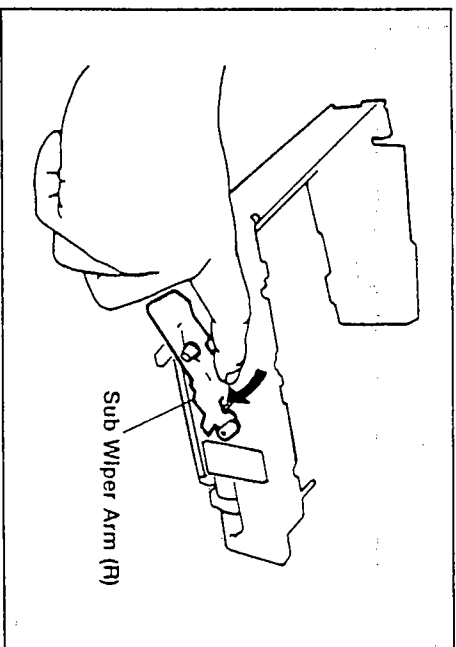

Figure M57
5. Press the sub wiper arm (R) to direction indicated by arrow so that the sub wiper arm (R) comes to cassette down position (STOP) completely as shown in Figure M57 and keep it.